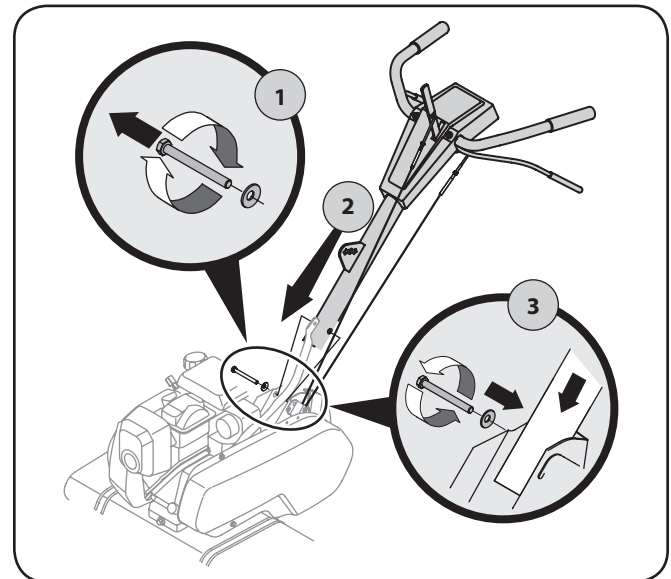

Figure 3-3
4. Remove the hex bolt and cupped washer from the right side of the frame. Hold the cable guide bracket on the left side of the frame as it will fall when the bolt is removed. Step 1 in Figure 3-3.
5. Insert the handle into the tiller frame as shown in Step 2 of Figure 3-3.
6. Insert the bolt through the cupped washer, frame, handle and into the cable guide bracket (note the notch in the cable guide bracket goes over the flange on the frame.) Step 3 in Figure 3-3.